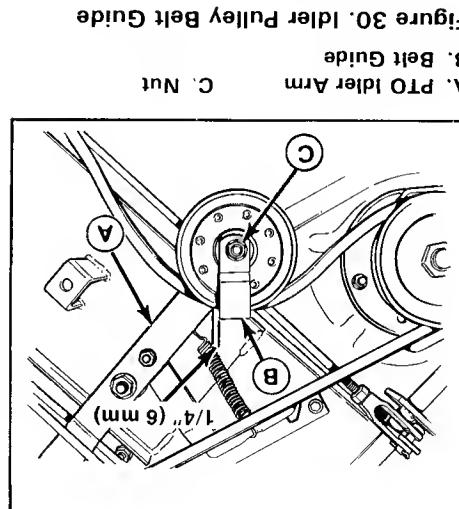

Figure 30. Idler Pulley Belt Guide
The idler pulley belt guide is correctly adjusted when its edge is $1/4$ inch (6 mm) from the rear edge of the idler arm (figure 30). If just set, loosen the nut (C) and move the belt guide. Tighten the nut and recheck the measurement.